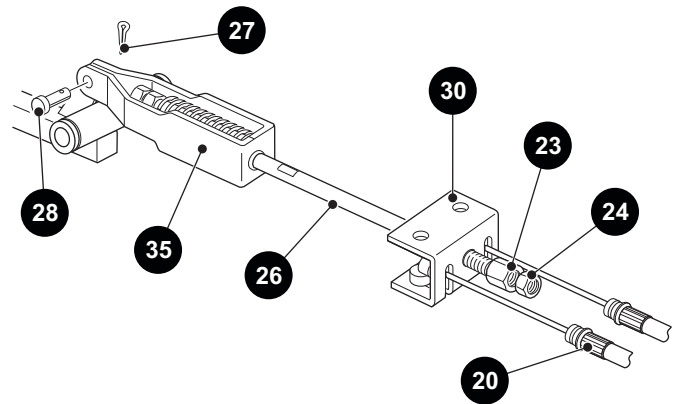

Figure 19 Equalizer and Compensator
3. Loosen and remove the jam nut (24) and the spherical nut (23) on the equalizer link (30).
5. Remove the brake cable (20) and equalizer assembly (30) (Ref. Figure 19).
1. Disconnect the compensator assembly (35) from the brake pedal (40) by removing the cotter pin (27) and clevis pin (28) (Ref. Figure 19).
2. Loosen and remove the jam nut (24) and the spherical nut (23) connecting the compensator rod (26) to the equalizer link (30).
3. Remove the compensator assembly (35).
4. Assemble in the reverse order of removal using new cotter pins (11) in the clevis pin. If the clevis pins are worn, replace them as well.